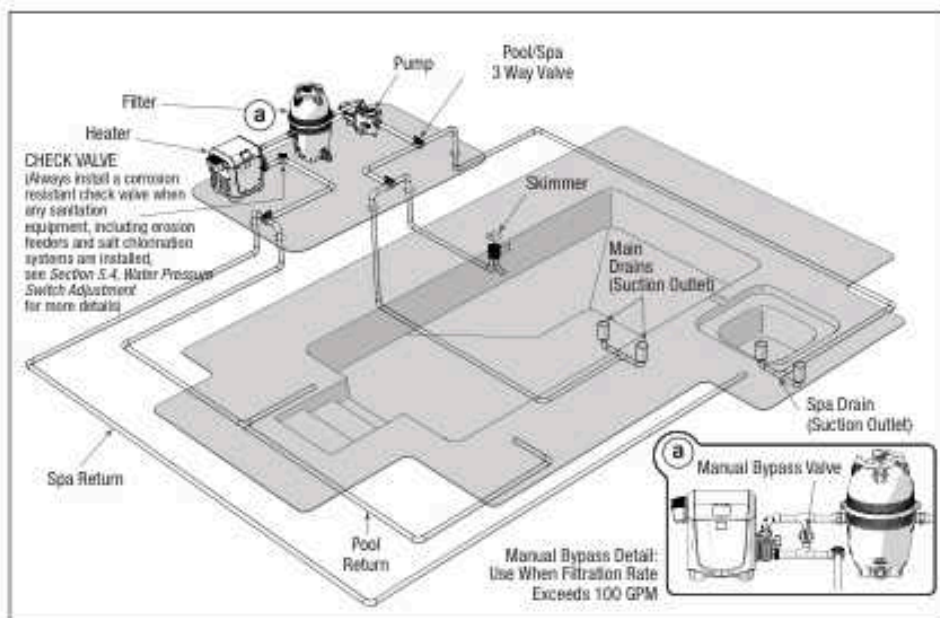

Figure 9. Typical Water Piping Configuration
Install pool system components with connections as illustrated in Figure 9. Any configuration other than as illustrated in Figure 9 can affect the operation of the water pressure switch. Locating the heater above or below the pool water surface can also affect operation of the water pressure switch.
- Connect a valve between the water inlet and outlet. See inset "a" in Figure 9.